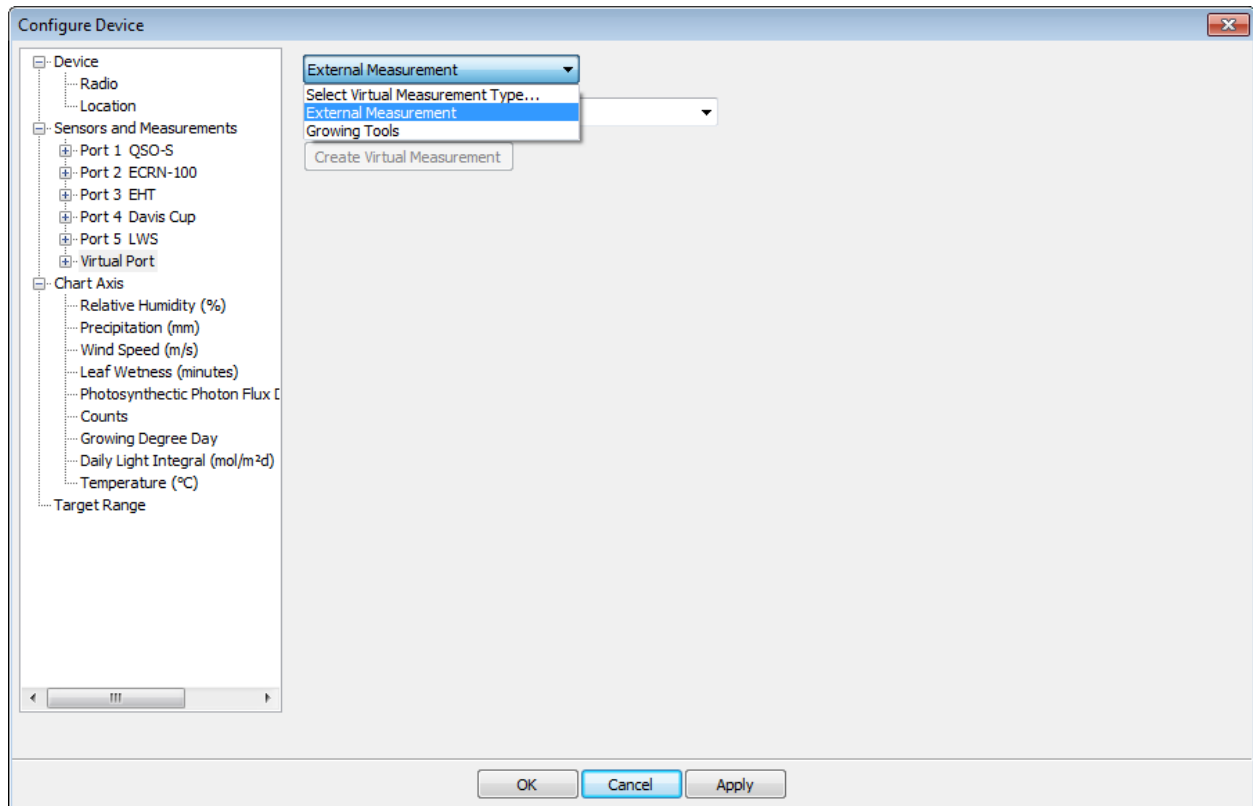

Figure 11. The External Measurement option is selected in Virtual Port.
- Choose “External Measurement” from the drop down menu on the right (Figure 11).